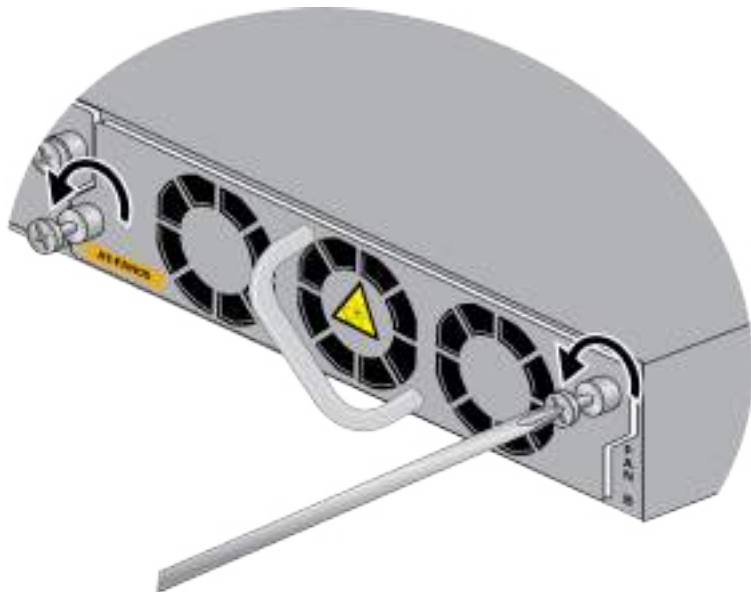

Figure 138. Loosening the Screws on the Fan Module
1. Use a #2 Phillips-head screwdriver to loosen the two screws on the faceplate of the fan module. Refer to Figure 138.